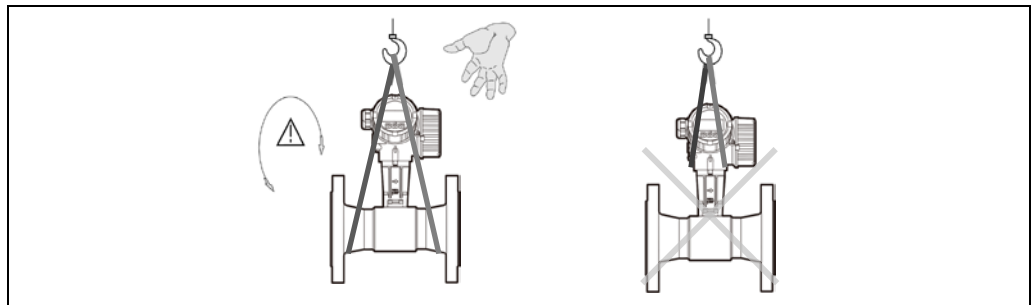

Figure 2
- Devices with nominal diameter 40 to 300 mm (DN 40 to 300) must not be lifted at the transmitter housing (*compact version*) or at the connection housing (*remote version*) when transporting (see Fig. 2). Use carrier slings when transporting and put the slings around both process connections. Avoid chains as these could damage the housing.